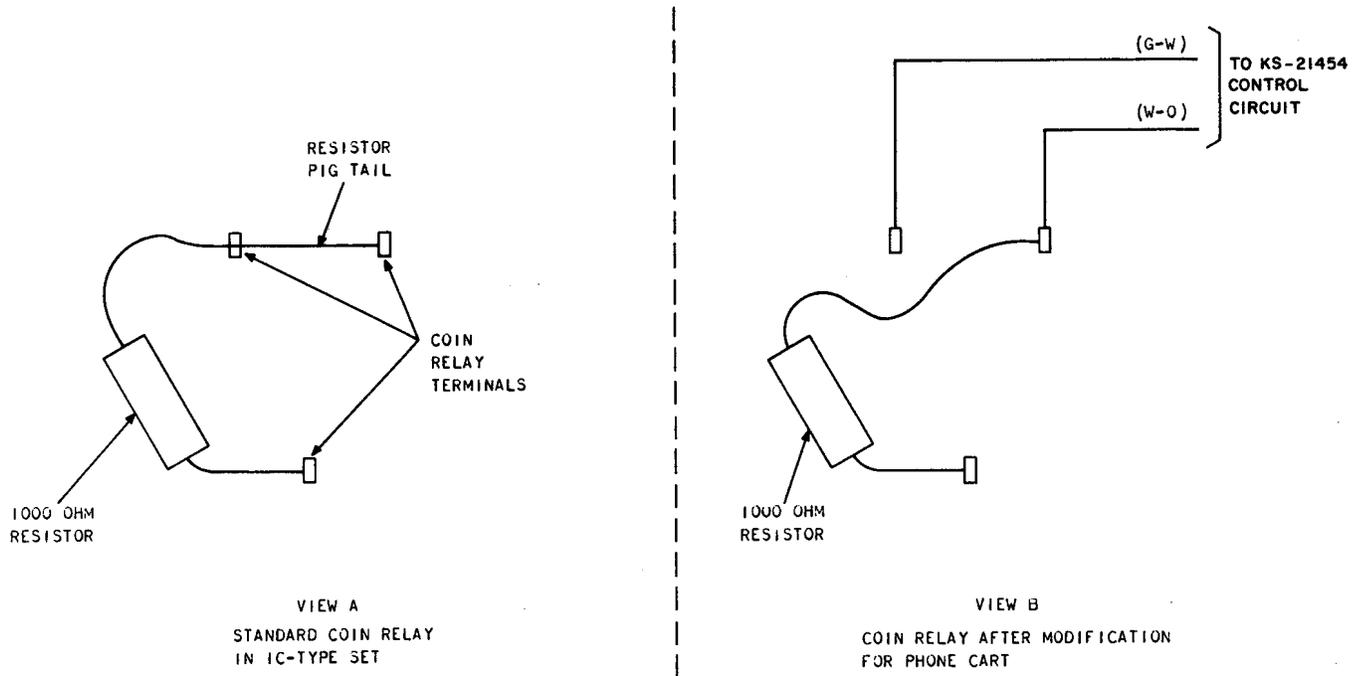

Fig. 9—Coin Relay Modification
**Never replace a modified coin telephone set on the phonecart with a standard 1C-type set. The set must be modified per Fig. 9 and be equipped with a 4-1/2 foot handset cord.**
**6.03** Refer to Section 506-410-400 for coin telephone set connections except the coin relay connections shown in this section will be modified per Fig. 9 and 10.